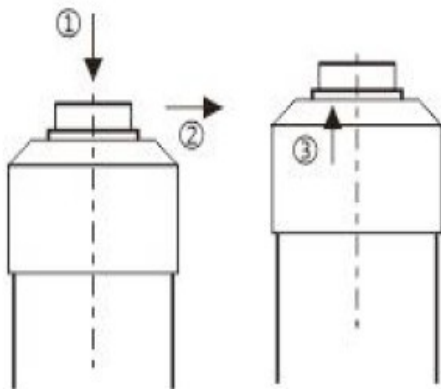

图1-1
- The ways for tool setting (see Figure 1-1)